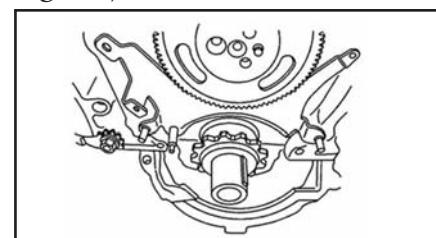

Figure 3 GM 4.3L lower bracket holes will line up with front cover alignment holes.
5. Position the bracket on the front of the engine. The upper two attaching holes of the bracket will line up with the center two engine front cover bolt holes. The lower bracket holes will line up with the engine front cover alignment holes (see **Figure 3**).